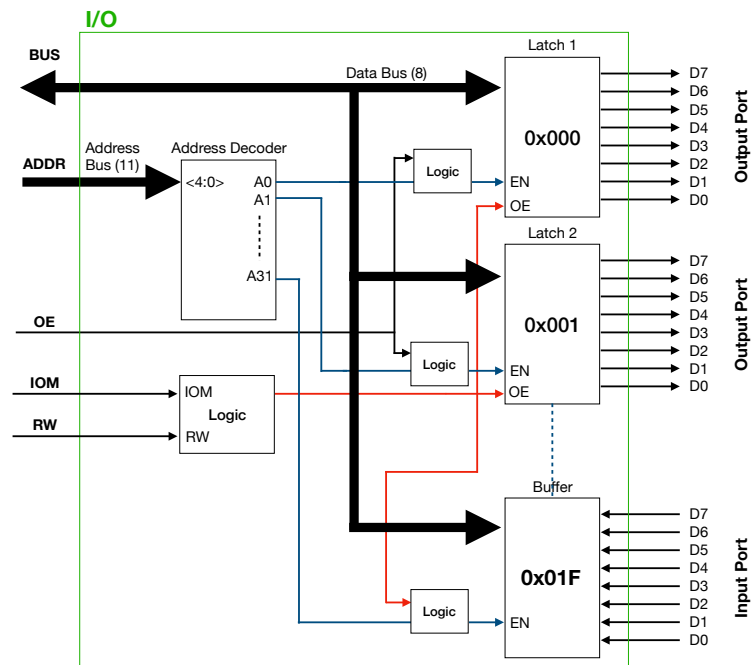

Figure 2. I/O Memory Organization
1. Refer to Fig. 2 for the structure and organization of the I/O Memory. At this point, it is important to note that the I/O Memory should not be compared to the Main Memory in terms of organization.